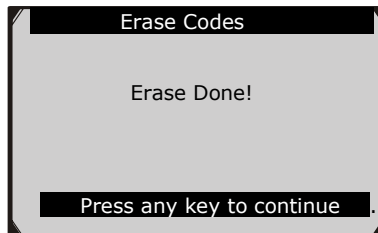

Figure 5.8
- If the codes are cleared successfully, an “Erase Done!” confirmation message shows on the display. (Figure 5.8)